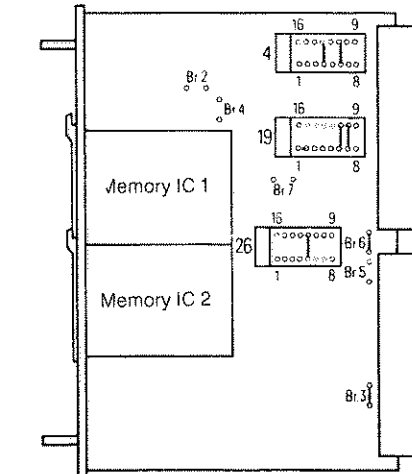

Fig. 6 350 memory module 2
- Insert jumpers 4.4-13 and 4.6-11 (Fig. 6).
- Insert jumpers 19.6-11 and 19.7-10 (Fig. 6).
- Insert jumper 26.5-12 (Fig. 6).